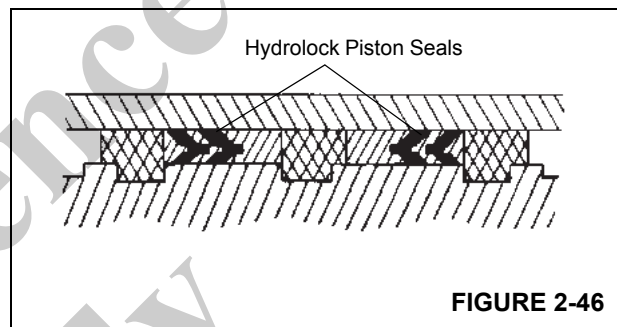

FIGURE 2-46
9. Install the hydrolock seals onto the piston. Refer to Figure 2-46 for proper seal orientation.